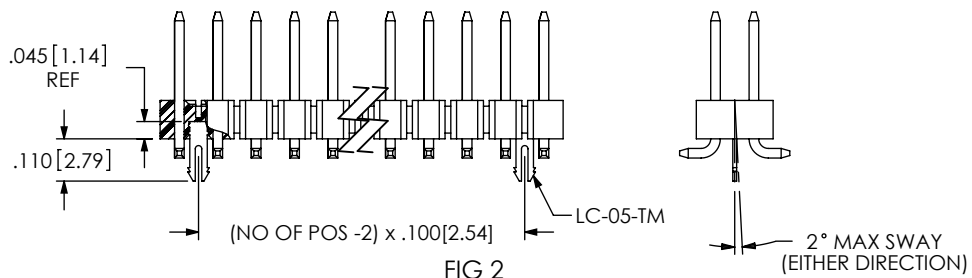

FIG 2
- LC: LOCKING CLIP (SEE FIG 2, SHT 2) (USE LC-05-TM) (-03 THRU -36 POS, USE 2 PER STRIP) (-02 POS, USE 1 PER STRIP) (USE RTSM-XX-DVU) (SEE NOTE 9)